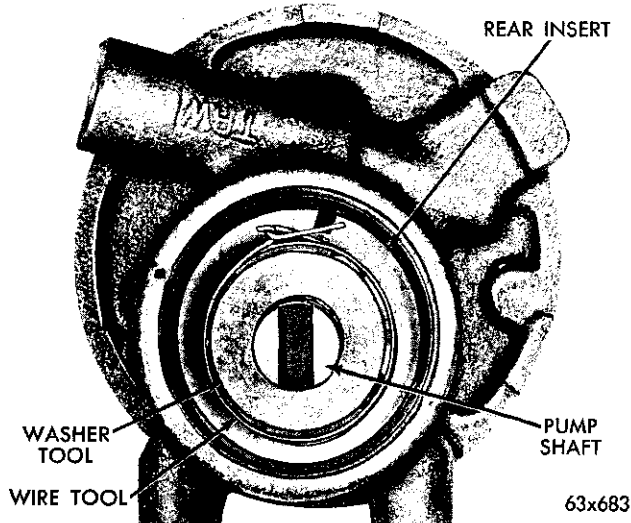

Fig. 19—Installing the Rotor, Shaft and Slippers Assembly
(15) Insert the shaft and rotor assembly with the flat washer tool and slipper retaining wire tool into the pump cam insert so that the slippers and rotor are inside the cam with the end of the shaft resting against the back face in the housing (Fig. 19).